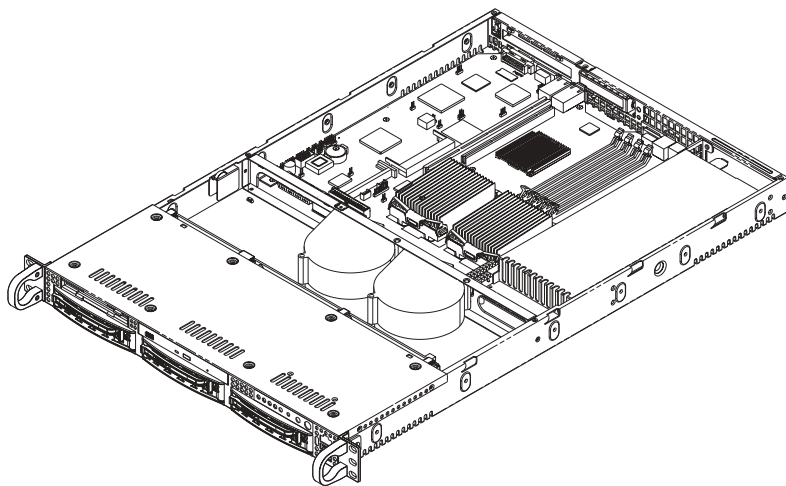

Figure 2-5. Accessing the Inside of the SuperServer 6012P-6
1. Accessing the inside of the 6012P-6 (see Figure 2-5):